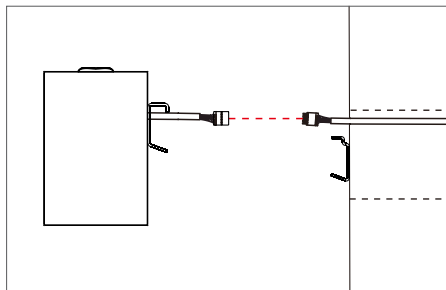

FIGURE 2-6
- 4) Make wiring connections. Insert AC wires, dimming wires, and ground wire into the male quick connector "E" (Figure 2-6)
- 5) Make connection between male and female quick connects. Hide all wires in the junction box. (Figure 2-6)